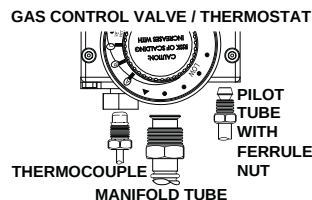

FIGURE 36.
Inspect the burner flames through the viewport and compare them to the drawing in Figure 36. A properly operating burner should produce a soft blue flame. Blue tips with yellow inner cones are satisfactory. The tips of the flame may have a slight yellow tint. The flame should not be all yellow or have a sharp blue-orange color. Contaminated air may cause an orange colored flame. Contact a qualified technician if the flame is not satisfactory.
5. Disconnect the following from the gas control valve/thermostat: pilot tube (7/16" SAE wrench), igniter wire (from the igniter lead wire), and manifold tube (3/4" SAE wrench). See Figure 36.
4. Disconnect the igniter wire from the igniter lead wire. Use needle nose pliers to disconnect the red (+) and white (-) thermocouple wires. Disconnect the pilot tube (7/16" SAE wrench) and manifold tube (3/4" SAE wrench) at the gas control valve/thermostat. See Figure 36.